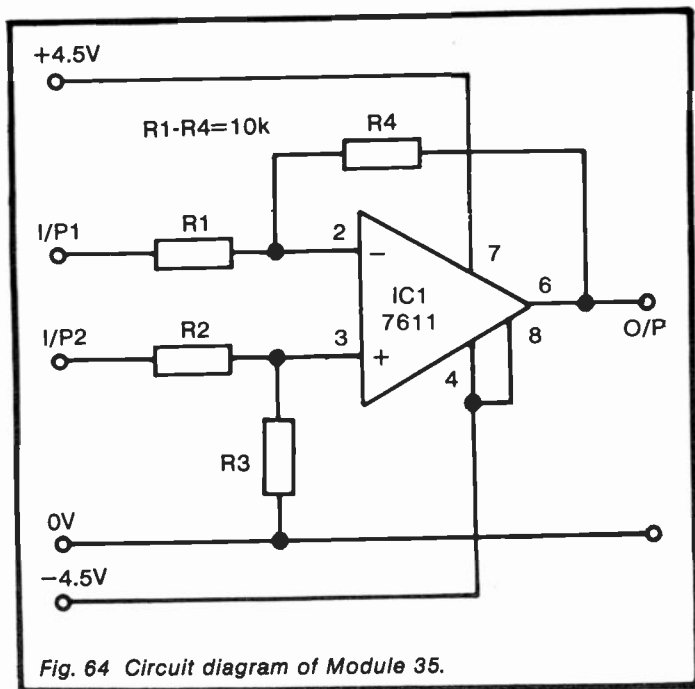

Fig. 64 Circuit diagram of Module 35.
**Circuit diagram:** see Figure 64.